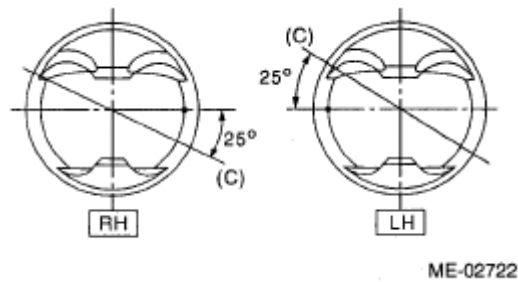

Fig. 171: Positioning Upper Rail Gap At (C)
15. Position the upper rail gap at (C) in **Fig. 171**.